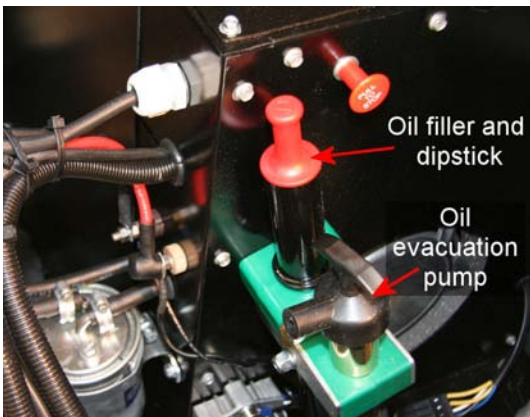

Fig 3-8 Oil filler/dipstick and pump
4. Remove the dipstick (Fig 3-8) and allow a few moments for the oil level to settle.
4. Remove the filler cap/dipstick (*Fig 3-8*).